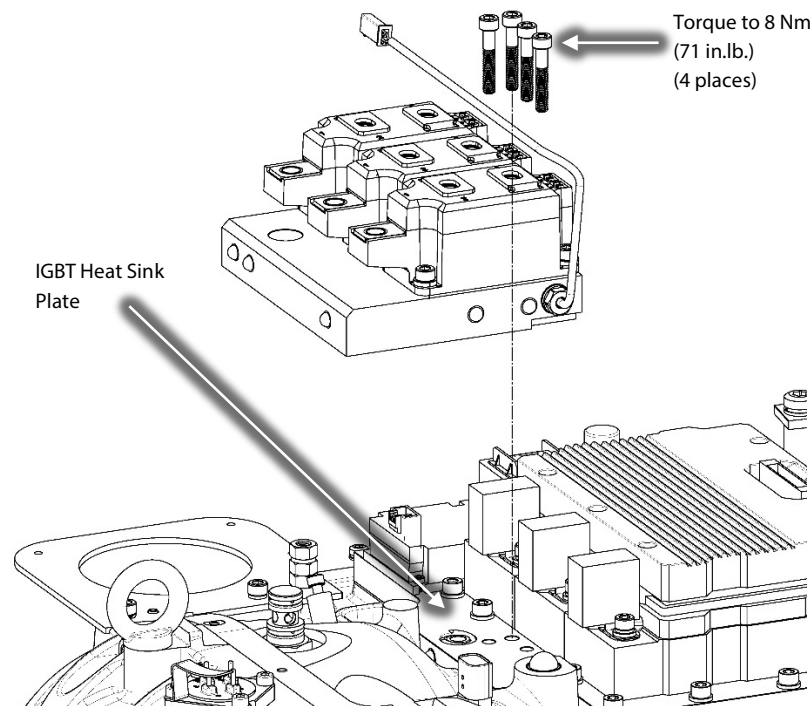

Figure 14 – SCR Manifold Removal
21. Remove the four (4) screws that secure the SCR Cooling Manifold to the IGBT Heat Sink Plate. (Refer to Figure 14 (SCR Manifold Removal)).
22. Carefully remove the SCR Cooling Manifold from the IGBT Heat Sink Plate and the SCR Manifold Return Brass Fitting. Refer to Figure 14 (SCR Manifold Removal).